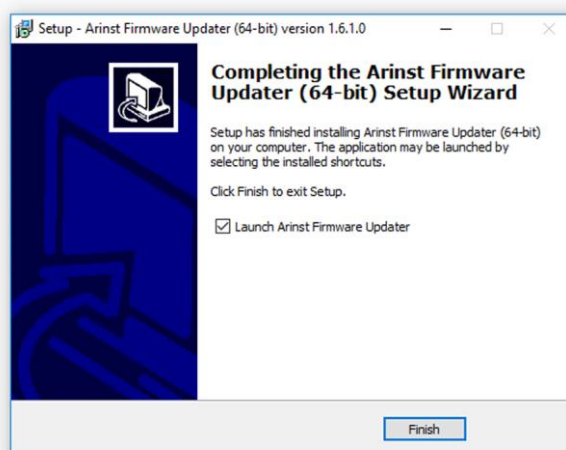

Figure A1.9 - Message from the application installation wizard.
1.8. After completing the loader installation (Arinst Firmware Updater applications), the application installation wizard will inform the user that the application is installed. In order for the application to be launched immediately after exiting the installation wizard, check the box next to the corresponding option. Click **Finish** to exit from installation wizard (Figure A1.9).